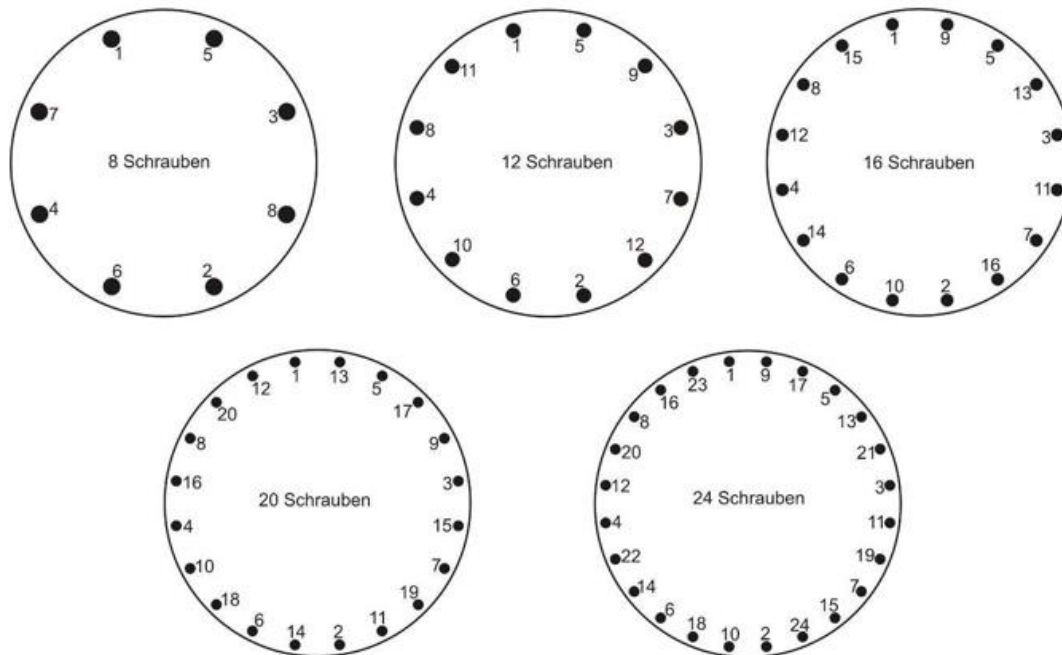

Figure 1: Tightening procedure (source: VCI on the assembly of flange connections in process plants)
1. tighten crosswise, as shown in Fig. 1, with 30 % of the nominal tightening torque,